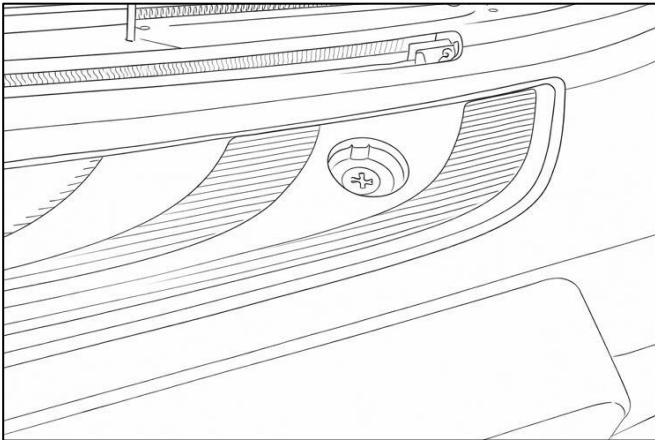

Figure 6: Center Step Bolts
7. ☐ Using a T45 driver, remove the (2) bolts located at the center of the bumper. **See Figure 6.**